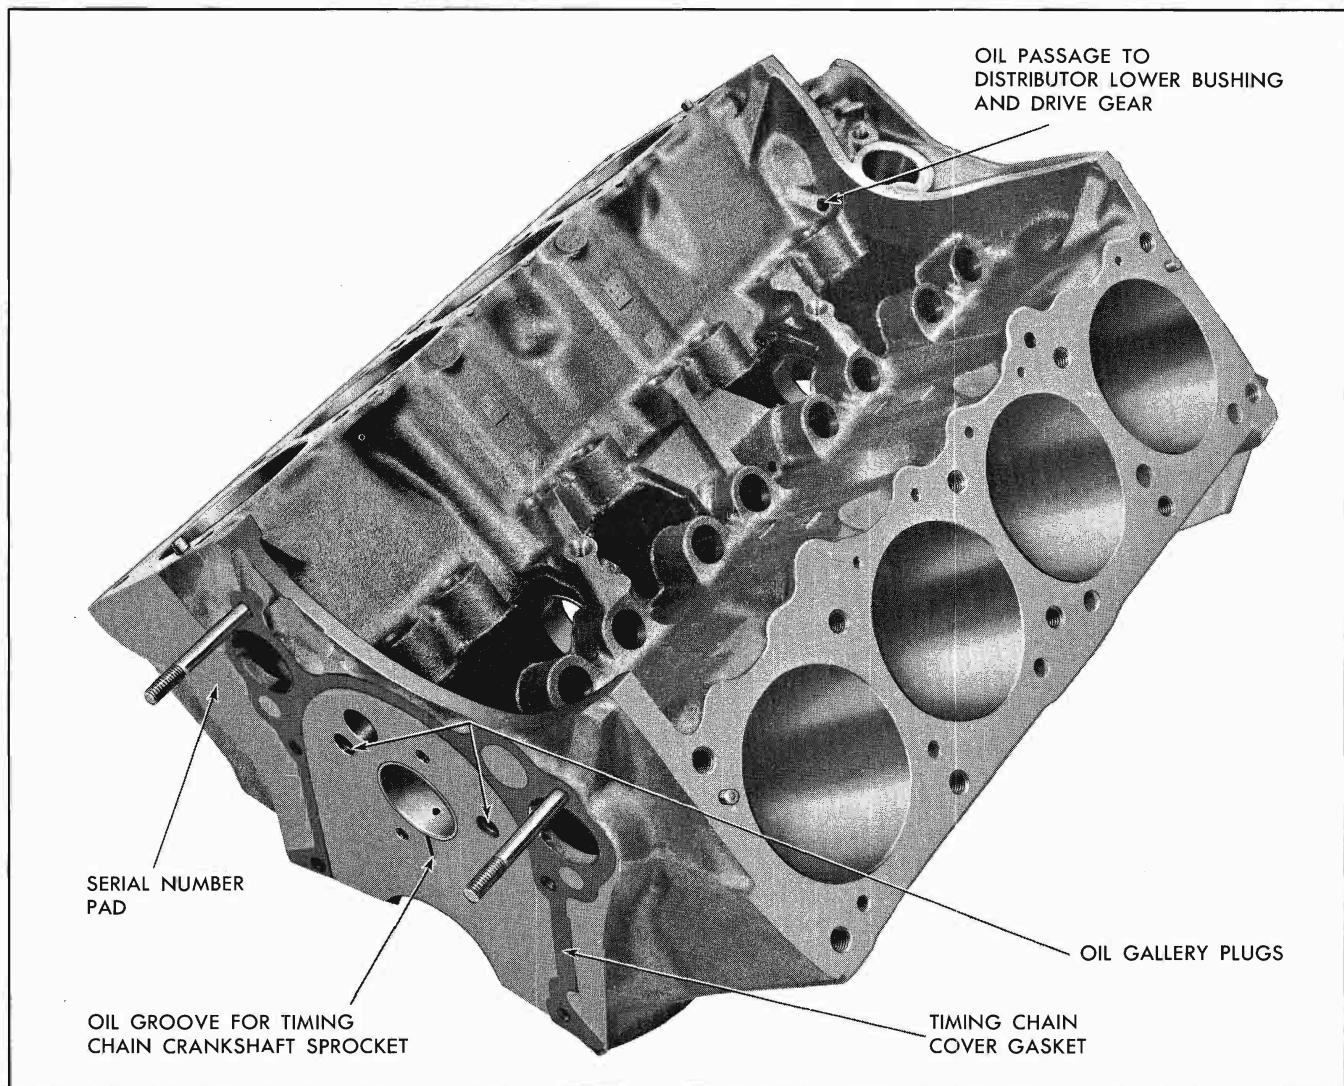

Fig. 6-77 Cylinder Block—View from Left Front
3. Remove all oil passage plugs (Fig. 6-77 and 6-78).